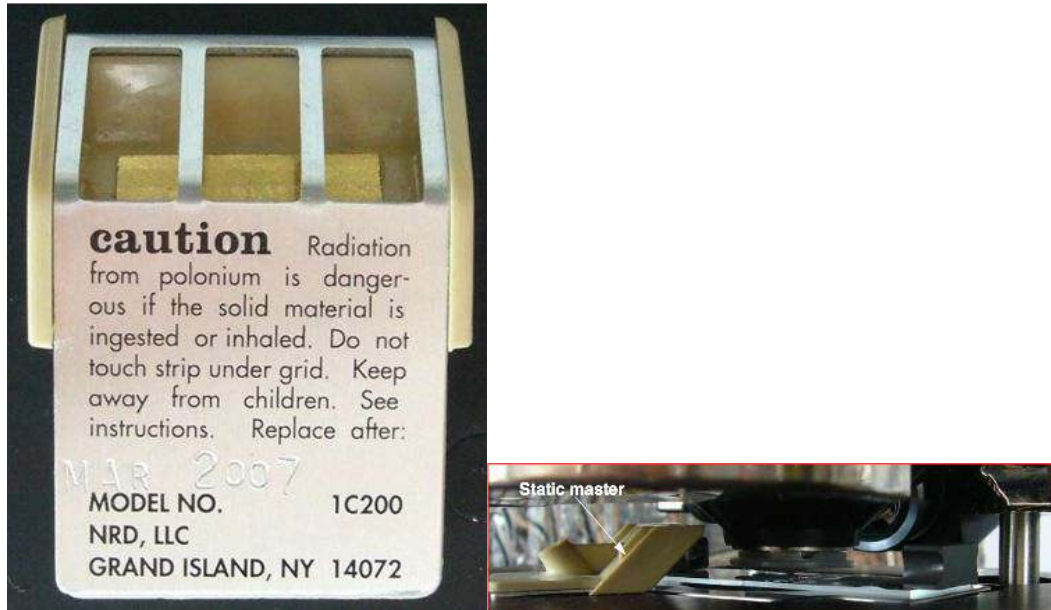

Figure 4.5.: Placing static master near sample on an MFP-3D AFM to dissipate charge
- Place the Static Master in the vicinity of the sample (fig. 4.5).